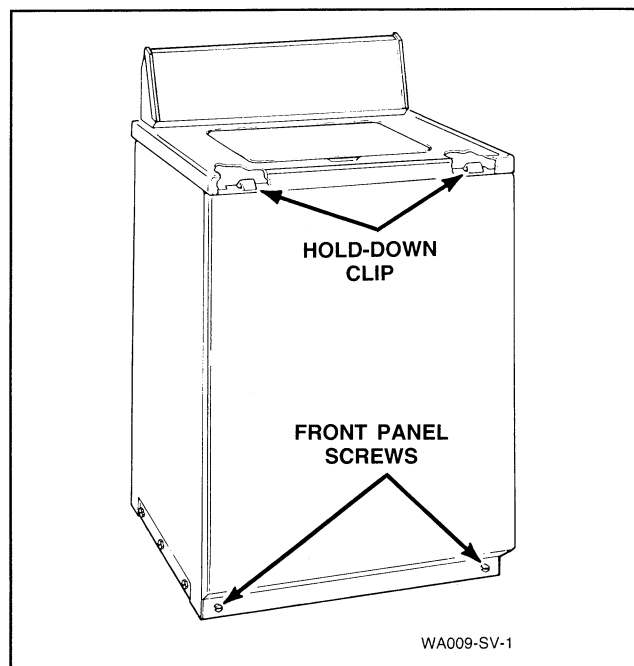

Figure 16
14. FRONT PANEL (Refer to Figure 16)
- a. Remove two screws from bottom edge of front panel, *Figure 16*.
- b. Pull bottom of panel away from washer until hold-down clips (located on top flange of panel) disengage from slots in cabinet top, *Figure 16*.
- Remove two screws from bottom edge of front panel, Figure 16.
- Pull bottom of panel away from washer until hold-down clips (located on top flange of panel) disengage from slots in cabinet top, Figure 16.